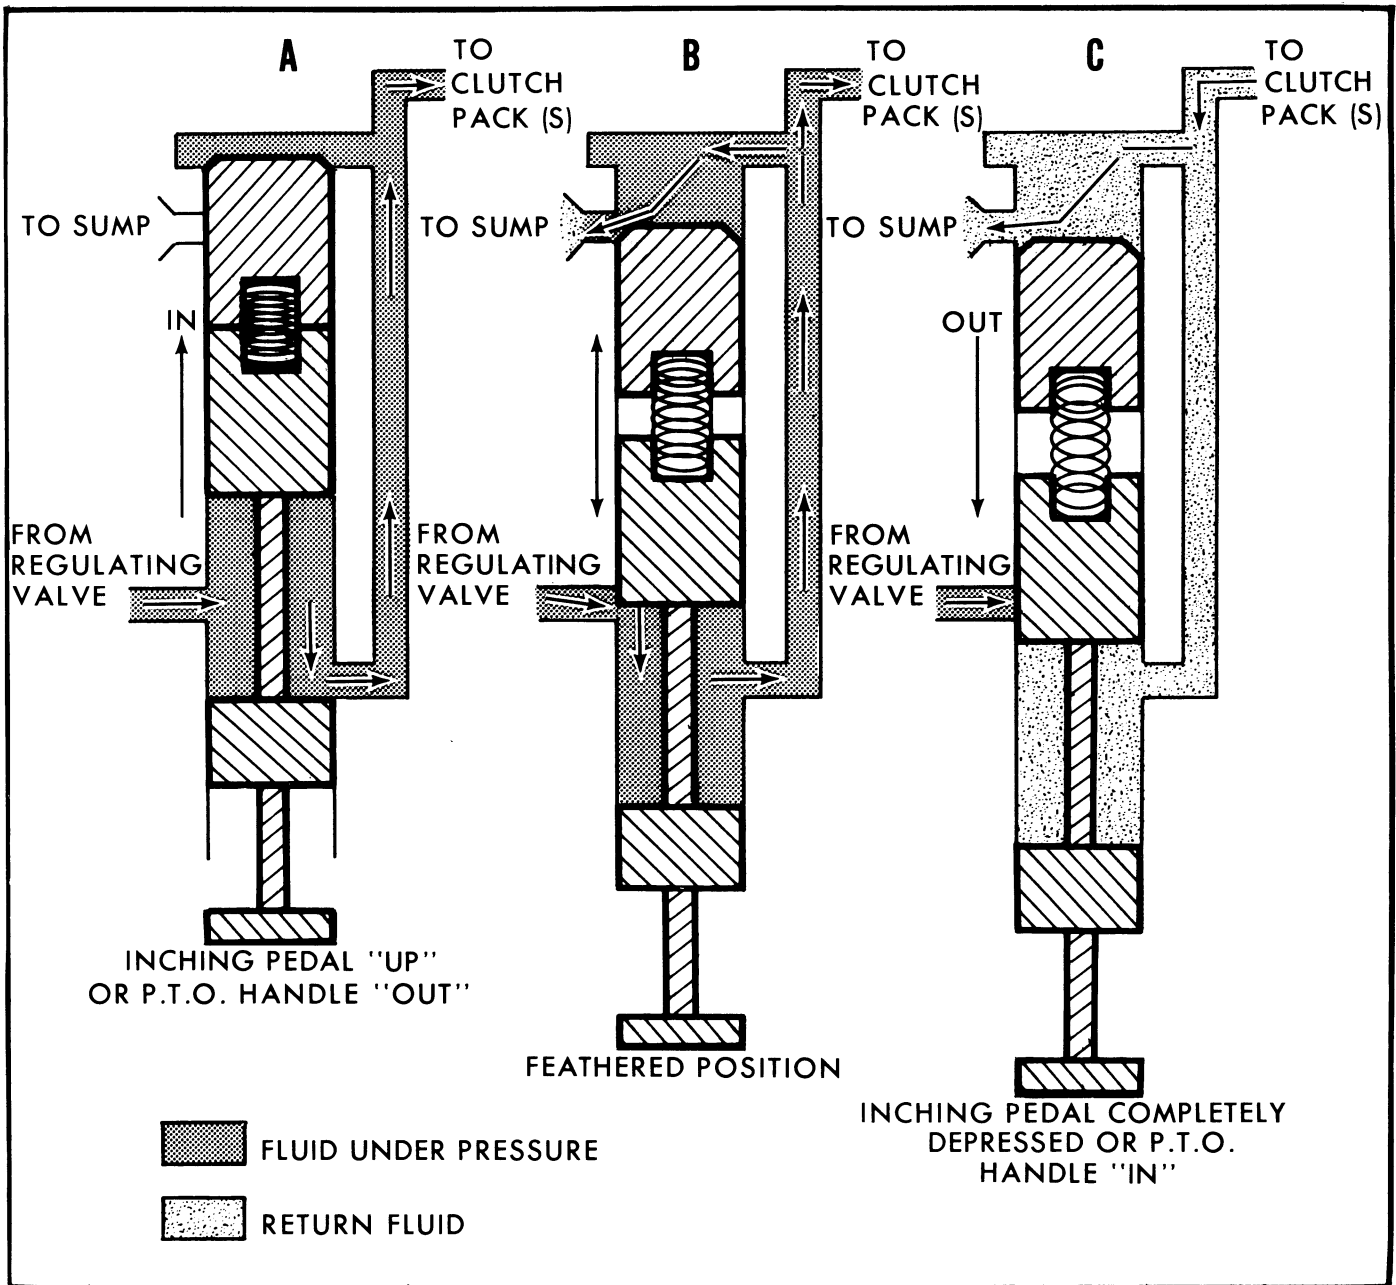

Figure 15
The feathering valve is located in the transmission indirect circuit ahead of the spool valves which control the fluid flow to clutches 1, 2, and 3. During normal operation, the feathering valve directs all of the fluid to the clutches, as shown at (A), Figure 15. When the pedal is completely depressed, fluid pressure is released from the clutch packs in the indirect circuit and engine power will not be transmitted to the rear wheels. This position of the feathering valve is shown at (C), Figure 15. When the pedal is raised slowly from the depressed position, fluid pressure will gradually increase and the elements in the indirect circuit will begin to engage. This is the "feathering" position of the valve, and is shown at "B", Figure 15.
P.T.O. Feathering Valve: In the P.T.O. model transmissions, the P.T.O. feathering valve is actuated by a "T" handle and rod assembly mounted in the right side of the tractor hood. The P.T.O. feathering valve, located in the control valve lower body, directs and controls the fluid pressure in the P.T.O. indirect circuit. When the handle is slowly pulled out, the feathering valve will move further into the control valve body. As the valve moves into the body, it opens a pressure port allowing fluid into the passage to the P.T.O. clutch. This fluid will at first be free to pass to sump. This position of the valve is shown at (B), Figure 15. As the valve continues to travel inward, the passage to sump will gradually be closed and increasing fluid pressure will be exerted on the P.T.O. clutch piston, causing the clutch to gradually engage. This position of the valve is shown at (A), Figure 15. This will facilitate the gradual starting of P.T.O.-operated equipment. When the feathering valve is in the extreme "OUT" position, with the control handle forward, the fluid pressure is entirely excluded from the P.T.O. circuit and the fluid in the P.T.O. clutch will be forced to return to sump by action of the P.T.O. piston return spring. The clutch will then be disengaged. This position of the valve is shown at (C), Figure 15.